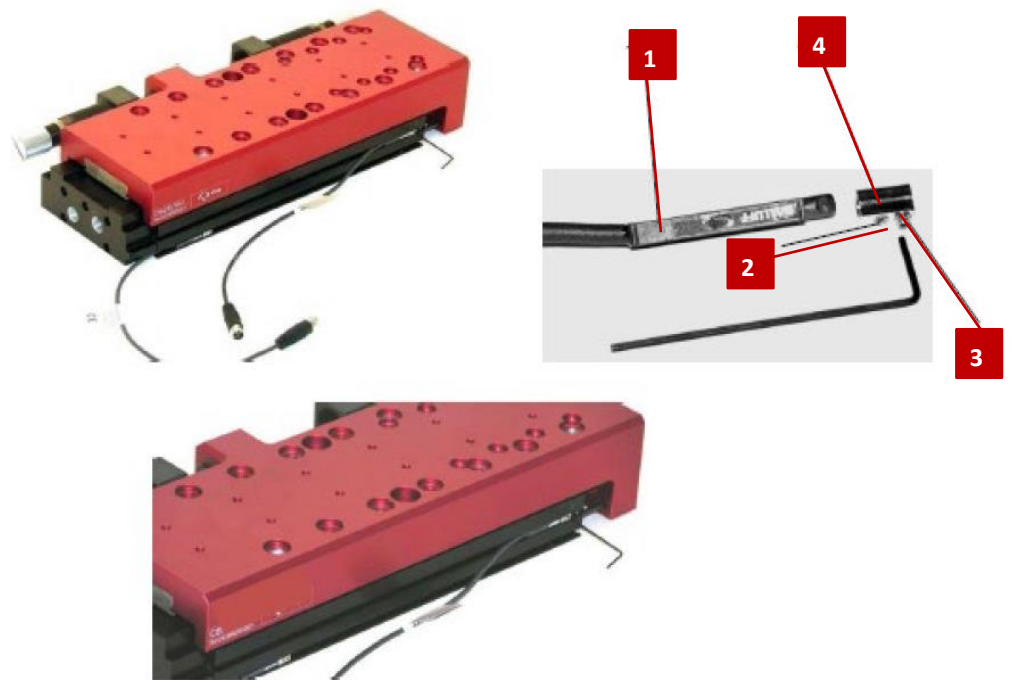

Fig. 14 Installation and adjustment of the compact slide
1. Insert the proximity switch (Fig. 14, 1) with the mounted clamping piece into the C-slot.
2. Fasten the proximity switch in the C-slot with the fastening screws on the clamping piece (Fig. 14, 3).